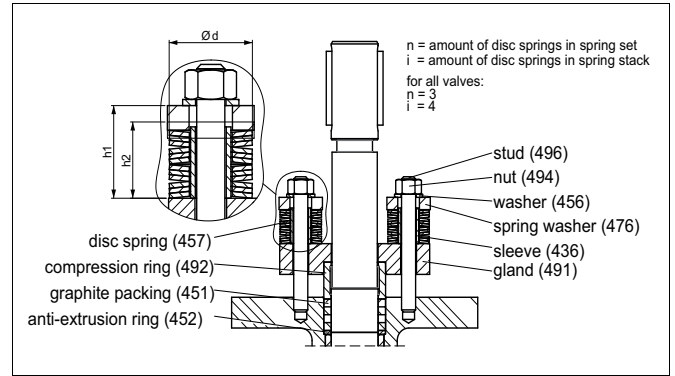

Fig. 34 Gland packing
- Unfasten the nuts (494) and remove the washer (456), the spring washer (476), the disc springs (457), the sleeve (436), the gland (491) and the compression ring (492).
- Remove old packing rings (451). Do not damage the surface of the packing ring counterbore and shaft. It is not necessary to change the anti-extrusion ring (452).
- Mount the disc springs according Figure 34.